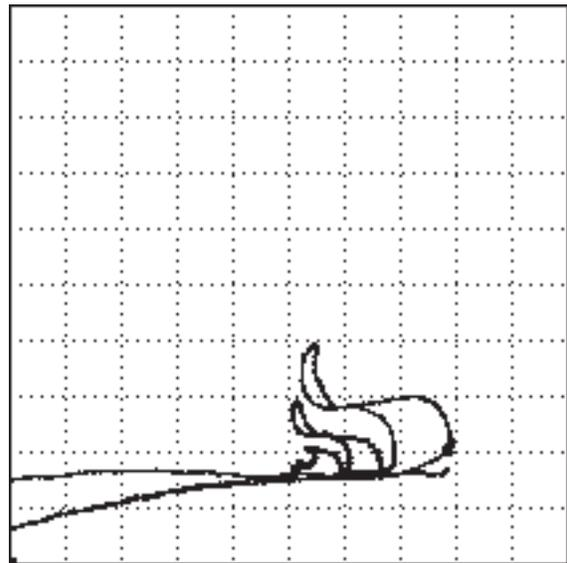

Figure 4-10.
35. Slide the probe down the center of the STD, over the simulated corrosion and observe the signals. (see **Figure 4-10**).